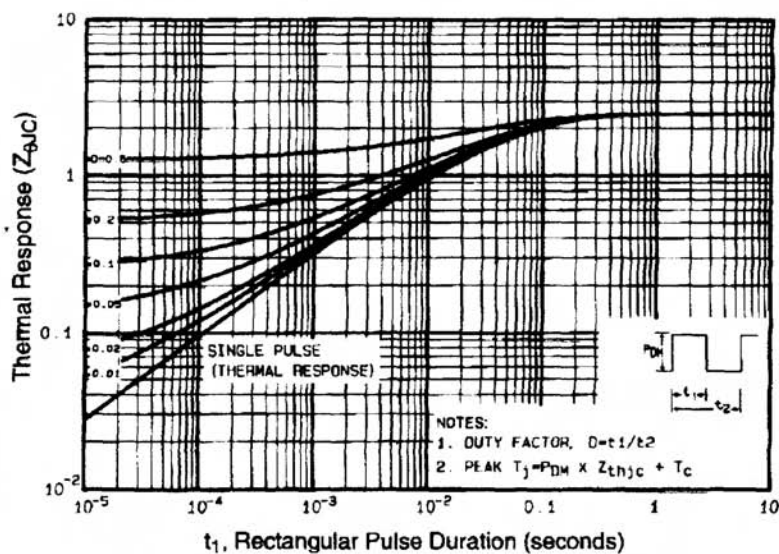

Fig 11. Maximum Effective Transient Thermal Impedance, Junction-to-Case
① Repetitive rating; pulse width limited by max. junction temperature (See Figure 11)
③ $I_{SD} \leq 3.3A$, $di/dt \leq 65A/\mu s$, $V_{DD} \leq V_{(BR)DSS}$, $T_J \leq 150^\circ\text{C}$
② $V_{DD}=50V$, starting $T_J=25^\circ\text{C}$, $L=30\text{mH}$